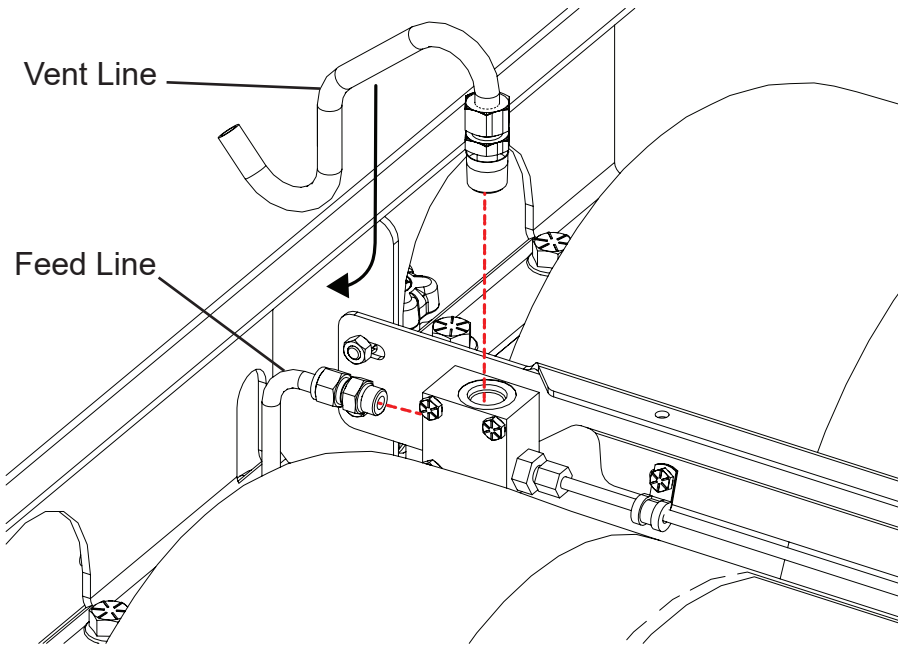

Figure 24: Connect the fittings to the PRD. Make sure to orient the vent line under the CNG system mount frame as shown.
6. Connect the feed and vent line fittings to the PRD (Figure 24).